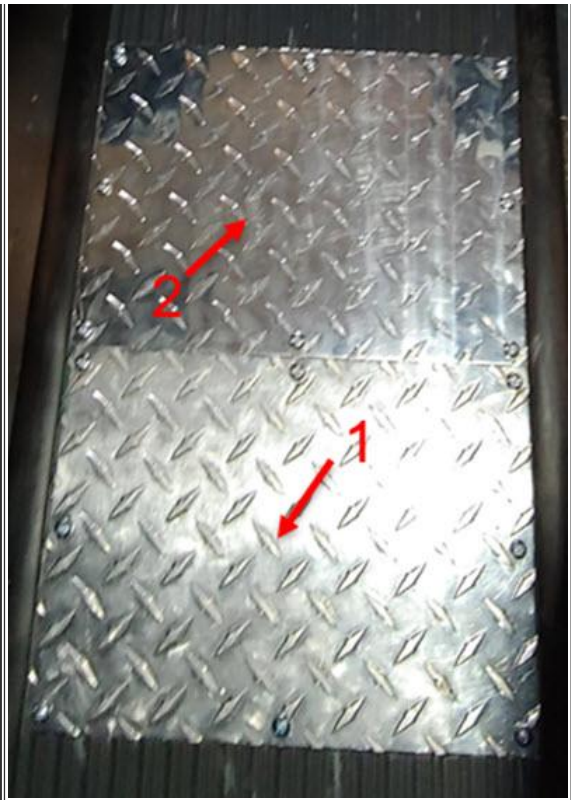

Figure 5: Dual Plates
3. Reinstall original plate and then install new plate, see figure 5 below.